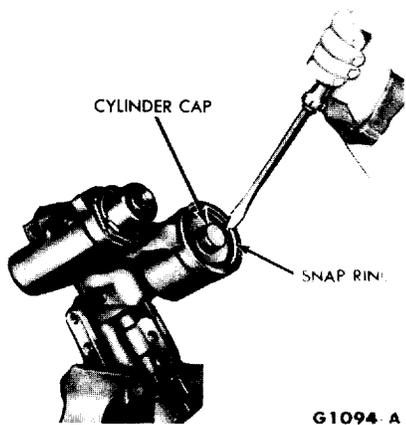

FIG. 7—Cylinder Cap Snap Ring Removal
1. Disconnect the pressure line and the return line from the steering gear housing (Fig. 7, Part 7-1). Plug the openings and cap the lines.
4. After removing the snap ring, remove the cylinder cap from the piston bore (Fig. 7). Remove the cylinder cap O-ring.